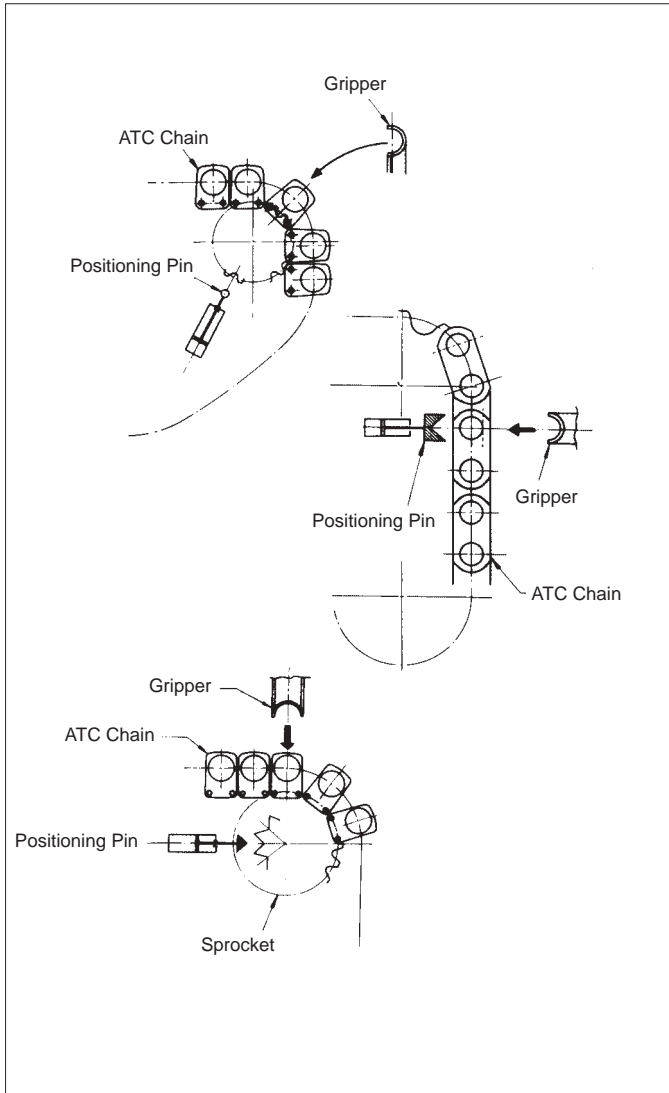

Figure 2.15 Positions for ATC Tool Changers
- (1) ATC Chains must be lubricated.
- (2) When there is excessive tool overhang, use a tool guide to keep the chain straight.
- (3) Change tools at the position shown in Figure 2.15.
- (4) Positioning pins and grippers help to maintain accurate placement.